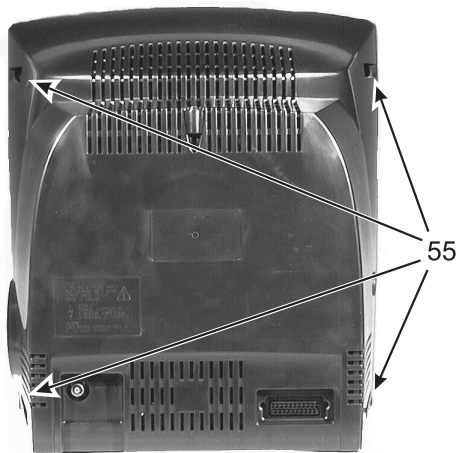

Figure 4-2
1. Remove the rear panel after unfastening the 4 screws 55 (see figure 4-2).